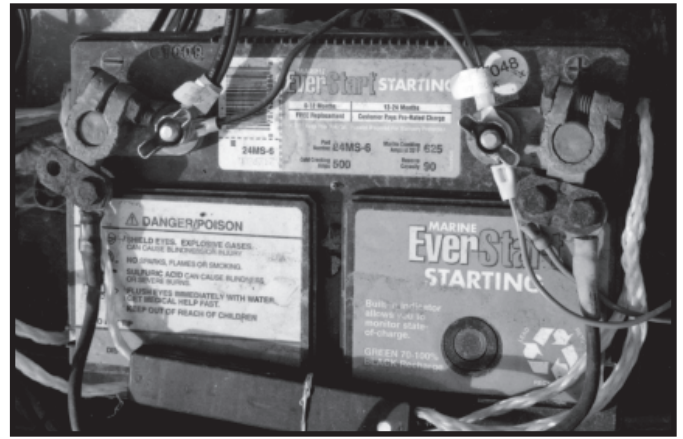

FIG. 22
Step 13: Connect the ring terminal labeled POS to the positive battery terminal and connect the ring terminal labeled NEG to the negative battery terminal. (Fig. 22)